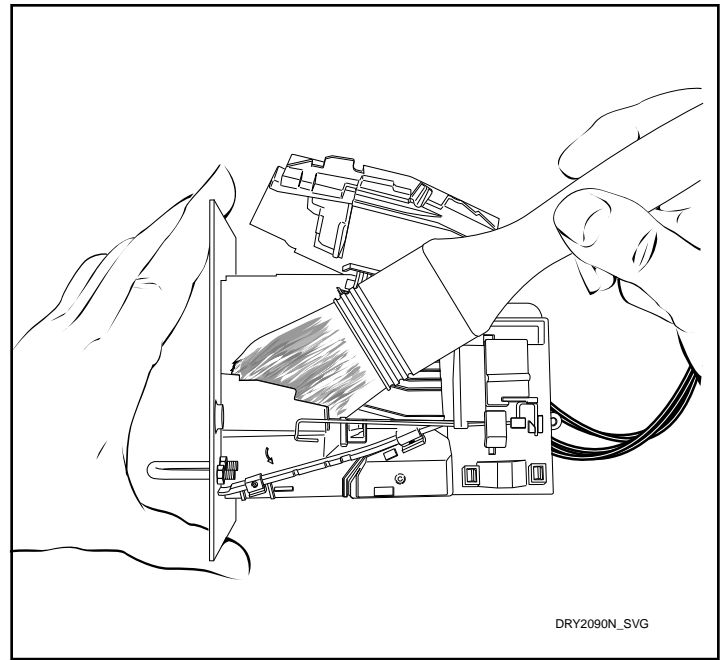

Figure 31
4. Clean the coin path with a soft brush and wipe exposed surfaces with an alcohol moistened cloth. Refer to *Figure 31*.